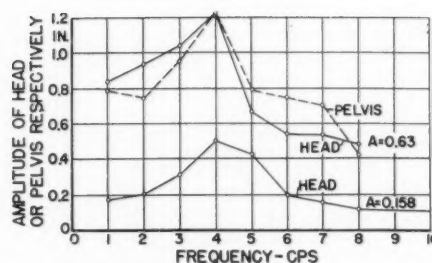

Fig. 3 The amplitude of head and pelvis as the amplitude of the seat remains constant at 0.63 in and 0.158 in, respectively — E. A. Müller (13)
be taken as a highly damped vibrational system. The natural frequency of a sitting person was determined by Wass (12) by exciting the natural oscillation (by sitting down quickly on a rigid seat). It amounts to about 6.2 cps. In a similar manner, Békésy, when measuring the pressure oscillations of a sitting person transmitted to the ground (10, 11), has found a free fading oscillation of about 7 cps, which is stimulated by the heart beat. It may be concluded from his test setup that this is the natural frequency of the human body. On the other hand, Müller (13) has evaluated the greatest amplitude of a person sitting on a vibration table at a frequency of about 4 cps, as shown in Fig. 3. But even this resonance value can be reconciled with the above-mentioned natural frequency of 6 cps, if it is considered that, for instance, in the case of an oscillation with a damping factor of one-half the value of the aperiodic damping factor, the maximum amplitude will occur when the exciting frequency approximates 0.8 of the natural frequency. Thus the frequency range between 4 and 7 cps may be taken as the resonance range of the human body.